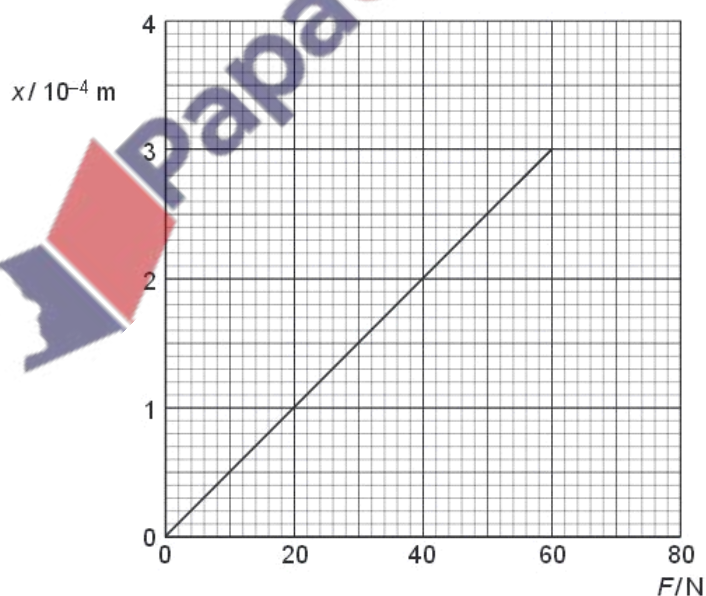

Fig. 4.1
- 4 A glass fibre of length 0.24 m and area of cross-section $7.9 \times 10^{-7} \text{ m}^2$ is tested until it breaks. The variation with load F of the extension x of the fibre is shown in Fig. 4.1.
(b) Use Fig. 4.1 to determine, for this sample of glass,